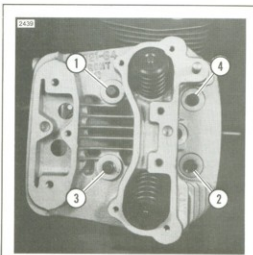

Figure 3-5. Head Bolt Loosening and Tightening Pattern
- See Figure 3-5. Loosen each head bolt 1/8 turn following the cross pattern sequence shown in Figure 3-5. (Gradual loosening is required to prevent distortion to the head, cylinder and crankcase studs.)